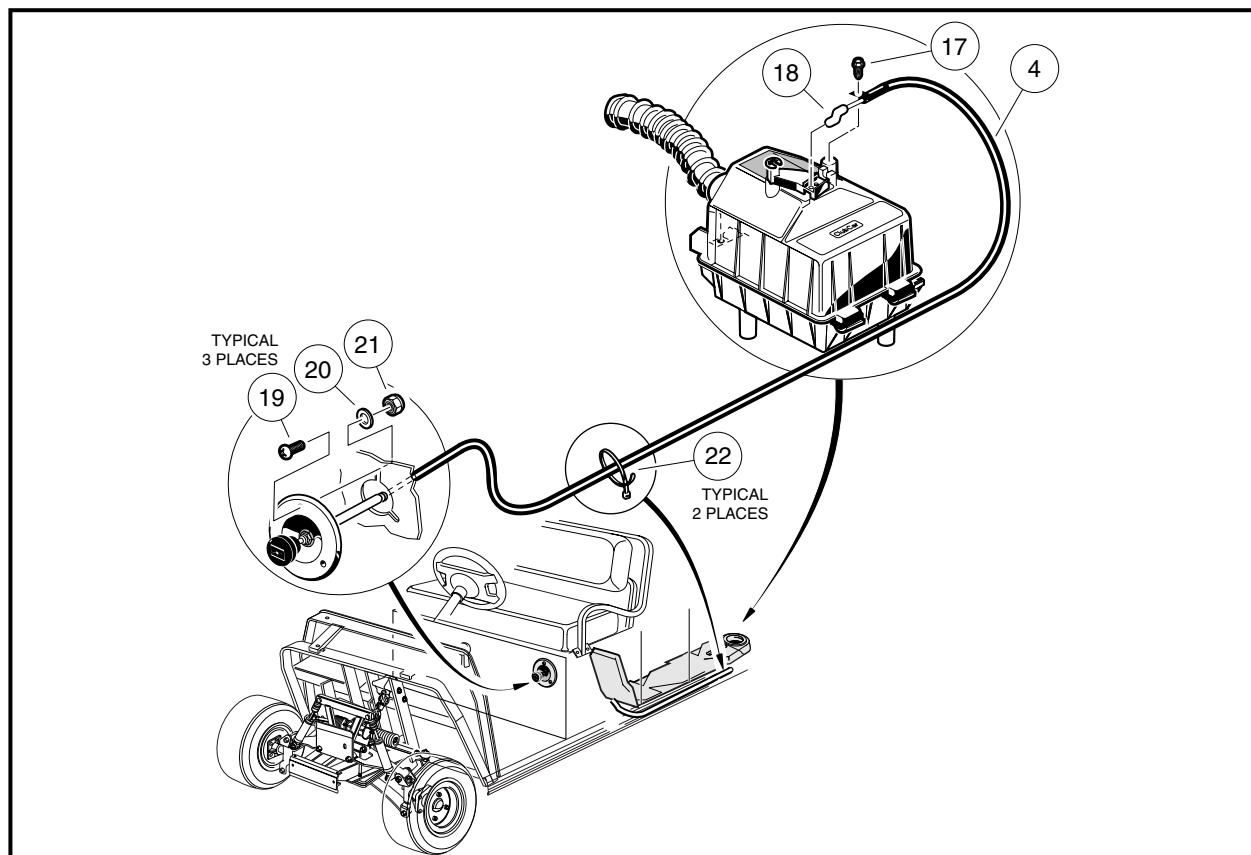

Figure 4-6 Villager 6 and 8 Choke Cable
15. Remove the screw (17) securing the choke cable to the air box and detach cable end (18) from choke lever (**Figure 4-6, Page 4-6**).
16. Remove the wire ties (22) that secure choke cable to the vehicle frame.
17. Remove three screws (19), nuts (21) and washers (20) from body and remove choke cable assembly from body.
8. Install three screws (19), washers (20), and lock nuts (21) as shown and tighten to 18 in-lb (2.0 N-m) (**Figure 4-6, Page 4-6**).
10. Attach choke cable to choke lever on air box. Install screw (17) to secure cable to air box and tighten to 18 in-lb (2.0 N-m) (**Figure 4-6, Page 4-6**).